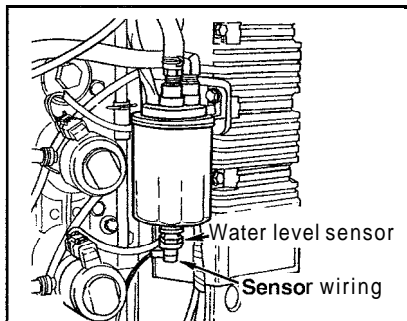

Fig. 70 Some smaller V6 models utilize a filter mounted to the REAR of the powerhead...
- ◆ See Figures 70, 71, 71a, 71b, 71c and 71d